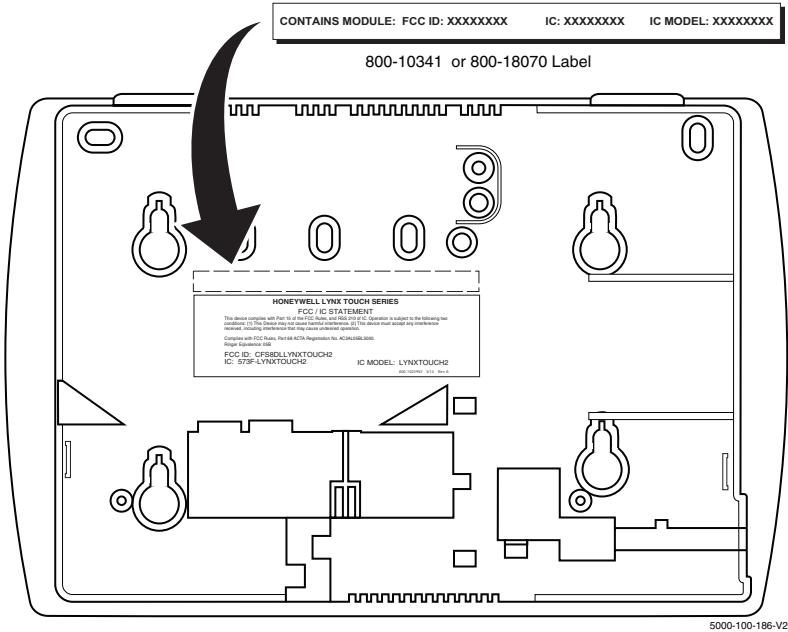

Figure 1. Typical FCC/IC Label Location (L5200 shown)
1. Install the provided FCC/IC label (P/N 800-10341 or 800-18070) on the control's case back (refer to Figure 1).